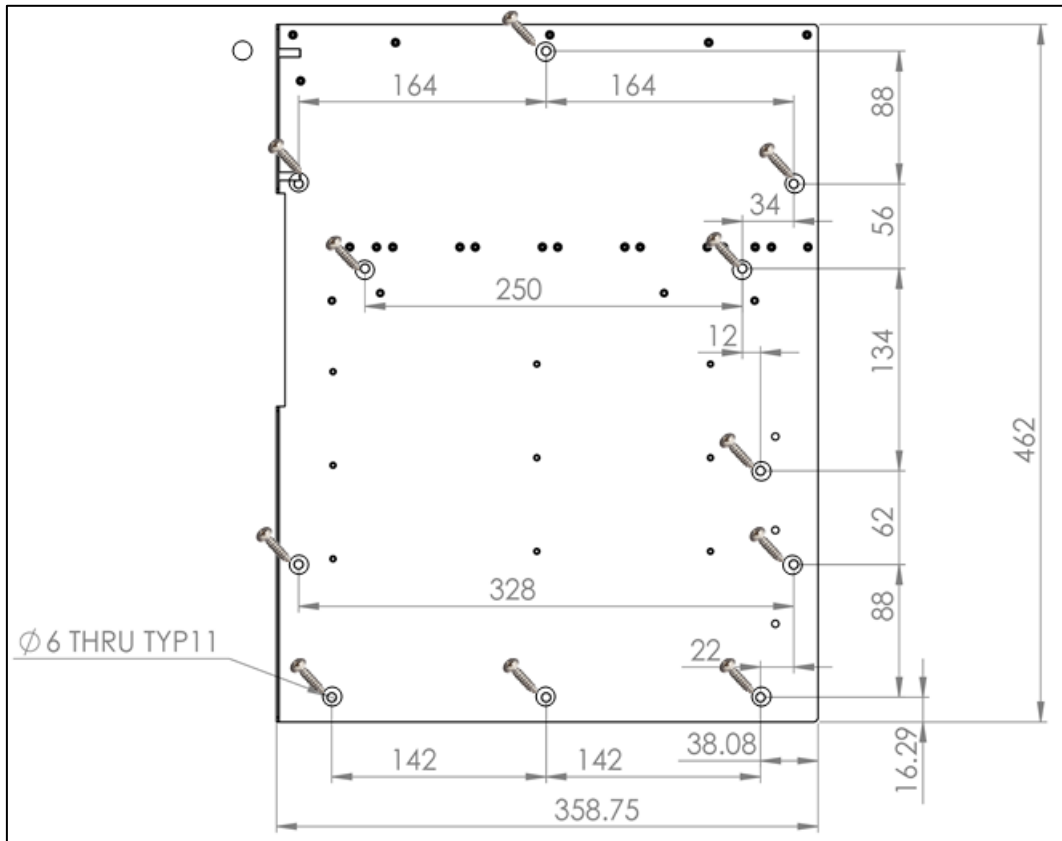
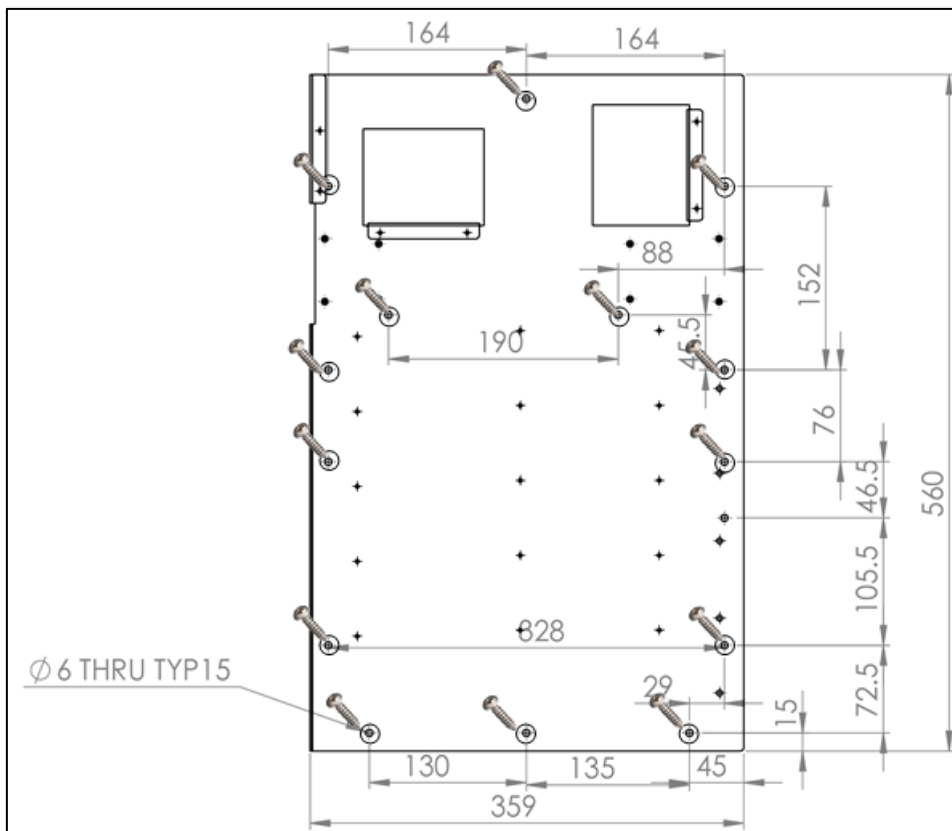

Figure 55: Platinum Pro 30 and Platinum Touch 30 Dimensions
Figure 56: Platinum Pro 50 and Platinum Touch 50 Dimensions
- Cut a hole in the door that is 20 millimeters larger than the dimensions shown in Figure 55 and Figure 56.